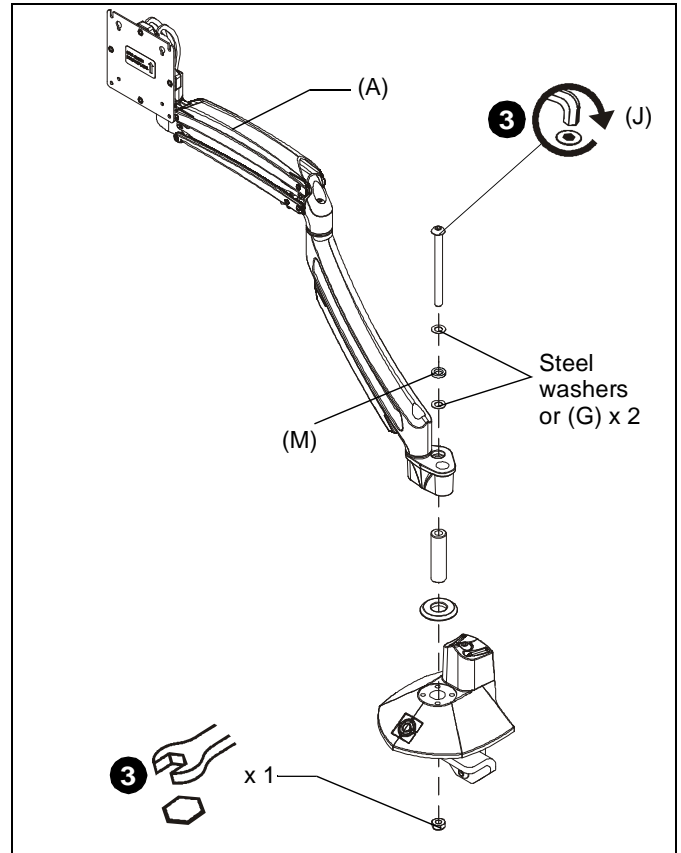
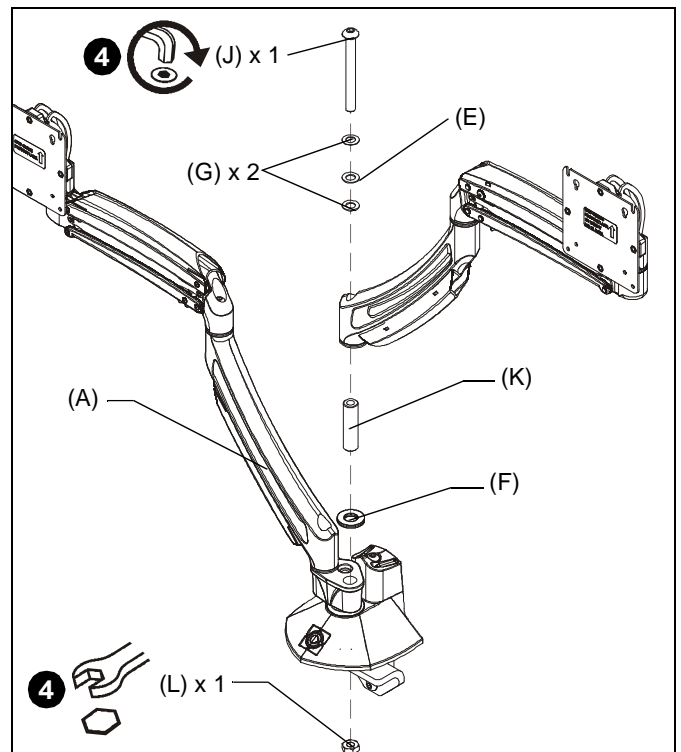

Figure 2
Figure 3
- Attach single monitor arm assembly (A) to original mount base using one 5/16-18 x 3 1/8" button head cap screw (J), steel washers from existing mount, 1/2" spacer (M) and pivot pin, pivot pin spacer and 5/16" lock nut all from existing mount. (See Figure 2)
**NOTE:** If two steel washers removed in Step 2 are lost or damaged, replace with the extra two washers (G).
- Reattach original mount arm (removed in Step 2) using one 5/16-18 x 3 1/8" button head cap screw (J), one plastic washer (E), two stainless steel washers (G), one pivot pin (K), one pivot pin spacer (F), and one 5/16" lock nut (L). (See Figure 3)